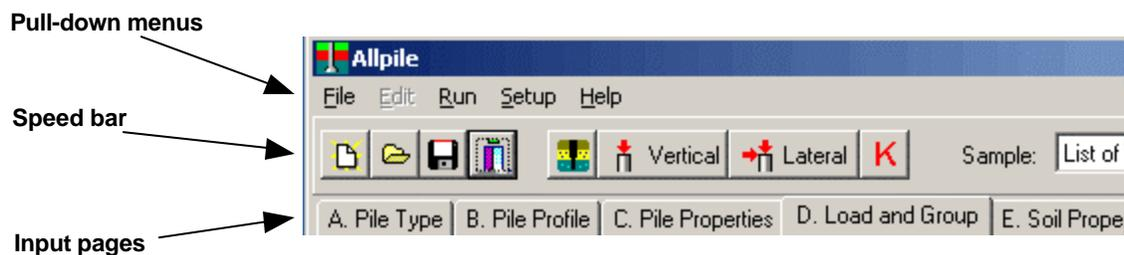

Figure 3-2. Main Components of Program Interface
- Step 1.** Enter information into the tabbed input pages (Figure 3-2). This step is described in detail in Chapter 4.
AllPile's program interface has three main components (Figure 3-2):